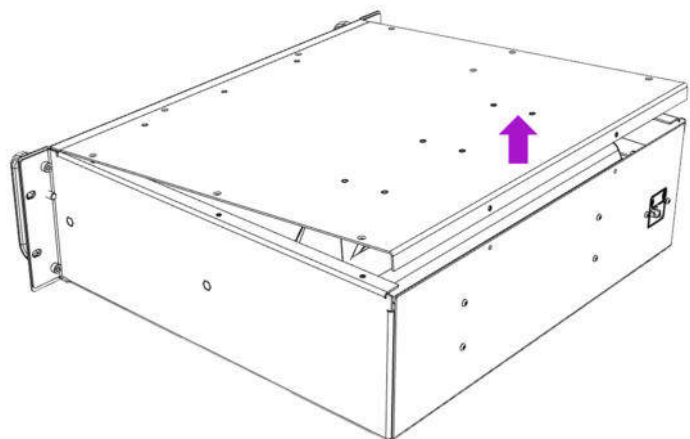

Fig. 11
4. Lift upper housing lid at the rear end (Fig.11)